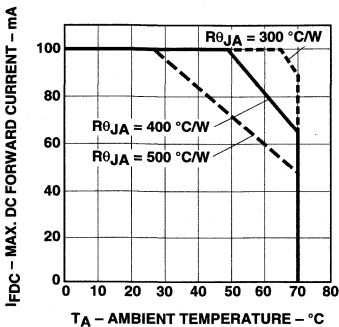

Figure 4. Maximum DC Forward Current vs. Ambient Temperature. Derated Based on  $T_{JMAX} = 110^{\circ}C$ .
- Derate linearly as shown in Figure 4.